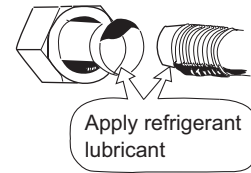

Fig. 2-18
- (1) Apply a sealing cap or water-proof tape to prevent dust or water from entering the tubes before they are used.
- (2) Be sure to apply refrigerant lubricant to the matching surfaces of the flare and union before connecting them together. This is effective for reducing gas leaks. (Fig.2-18)